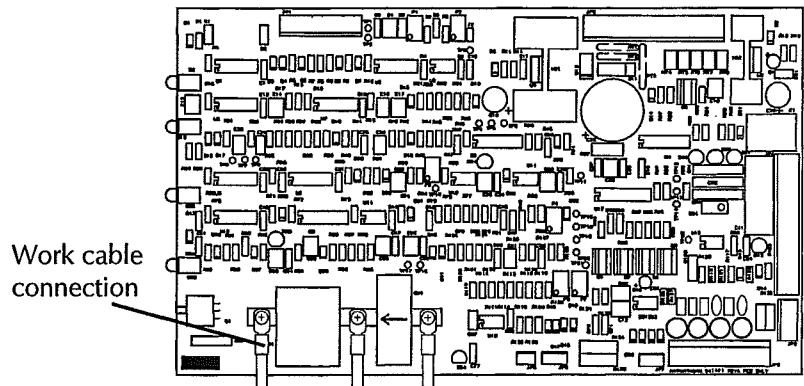

Figure 3 - Powermax1100 Control Board with Work Cable Connected
5. Unscrew and remove the old work cable lead from the control board - Fig. 3.
13. Attach the work cable to the control board - Fig. 3.